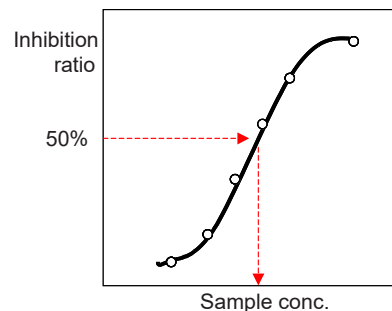

Figure 8 Inhibition curve
- Prepare an inhibition curve using sample concentration for the x-axis and percentage inhibition of ACE for the y-axis. A typical inhibition curve is shown in Figure 8.
- Determine the concentration of the sample solution that gives 50% ACE inhibition as indicated in Figure 8.